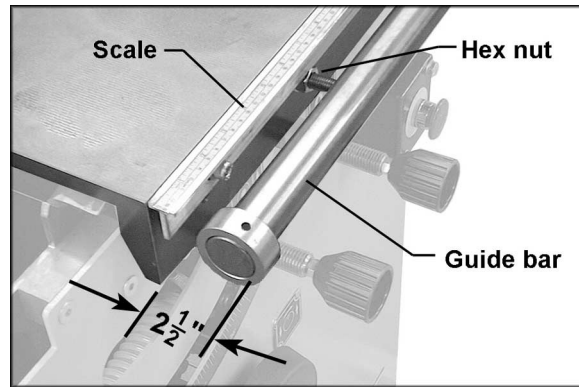

Figure 9
1. Mount the scale (Figure 9) to the edge of the cast iron table with three M8 x 30 socket head screws, M8 flat washers, and spacers.